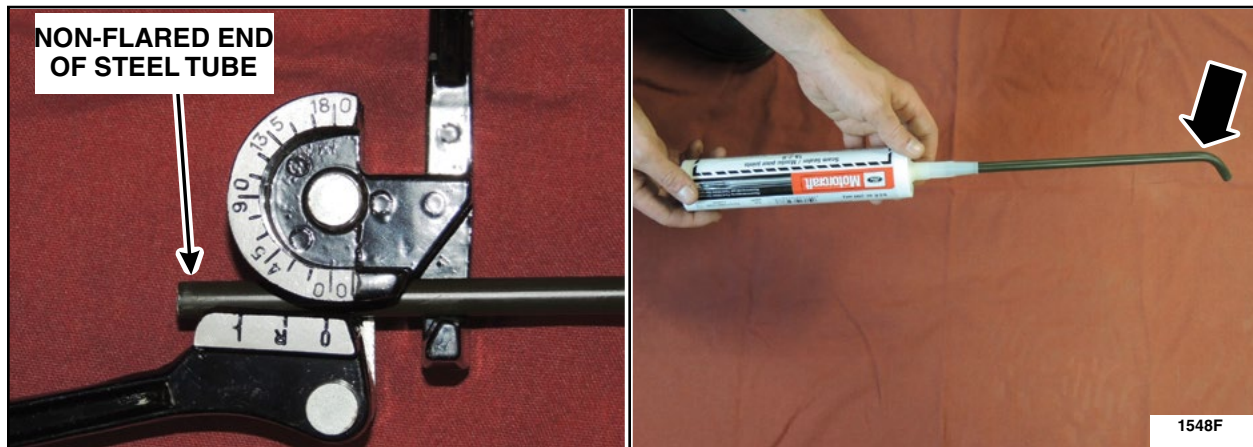

FIGURE 8
2. Insert approximately 38 mm (1.5 in) of the non-flared end of the 3/8" O.D. x 11" flared steel tubing into a tube bender and bend to a 45 degree angle. See Figure 8.